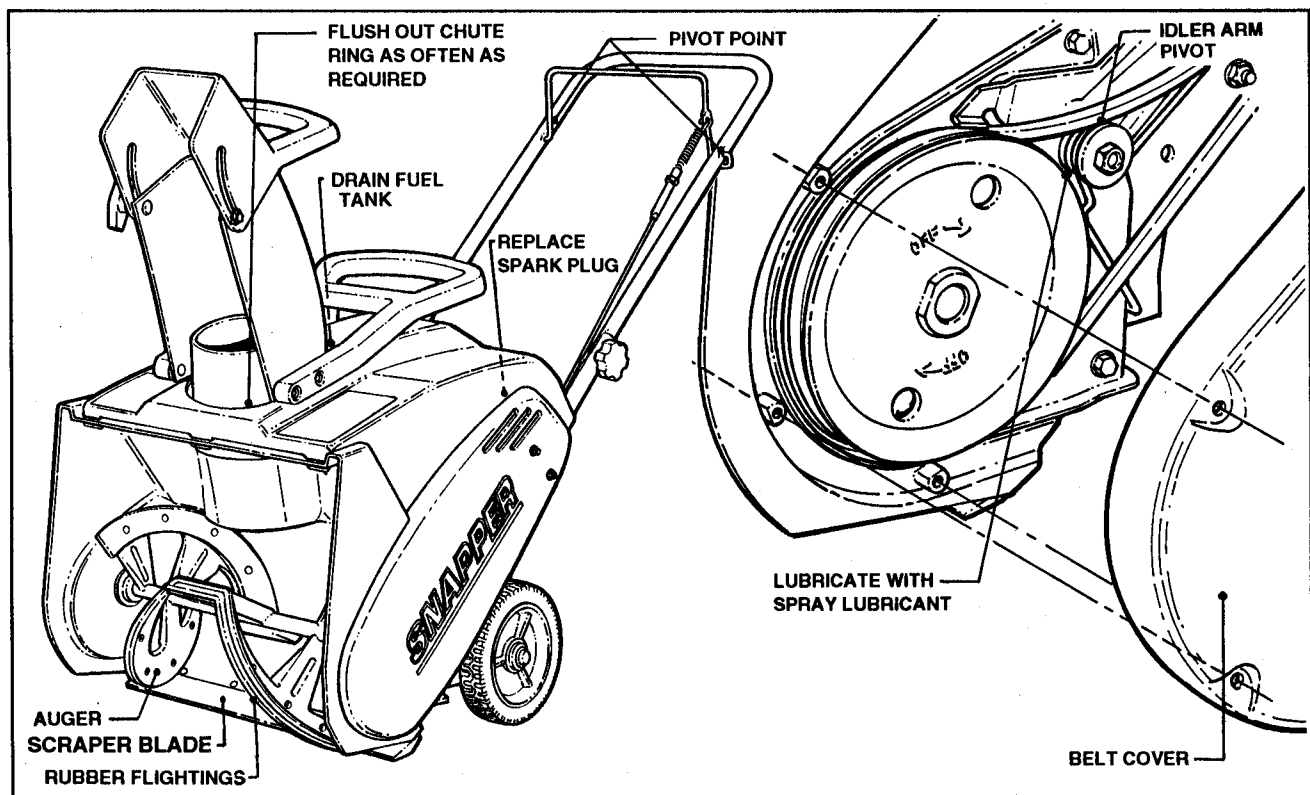

FIGURE 5.1
(1) Remove the Belt Guard and lubricate the Idler Arm Pivot with WD-40™. (See Figure 5.1).
(2) Also, lubricate the Clutch/Brake Arm Pivot.
(3) Lubricate the Auger/Clutch Control Handle Pivots with a light coat of SAE 30 Engine Oil.